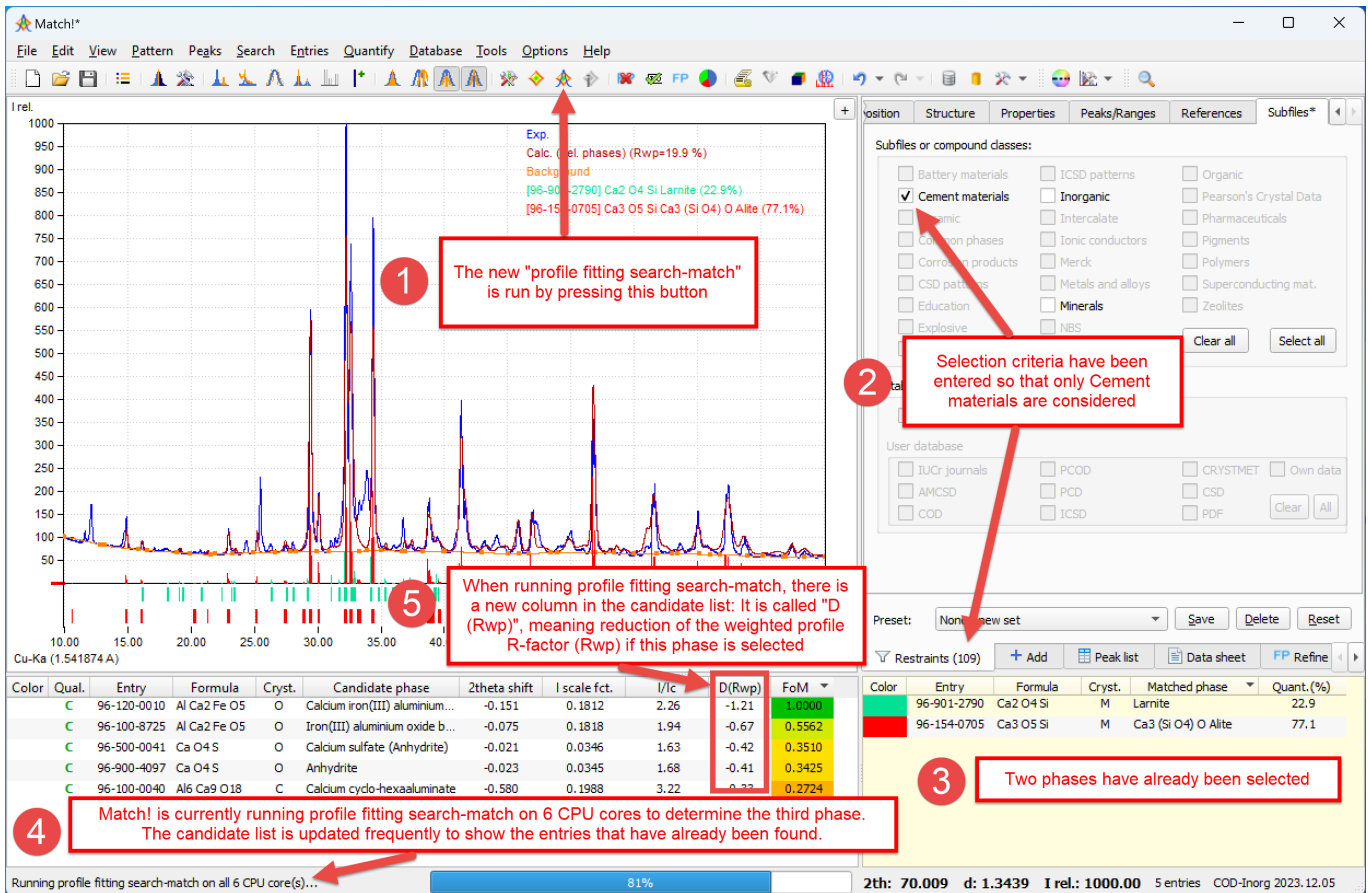

Fig. 10: Profile-fitting search-match in action, working on a Cement sample
- We strongly recommend restricting the PFSM calculation to certain groups of phases, if you have additional information about the sample. In this example (Fig. 10), it was known a-priori that the sample was a Cement material. In other cases, it may be known that certain elements may be present or can be excluded (Fig. 9). In general, additional knowledge about the sample is applied by selecting **restraints** (p. 38).